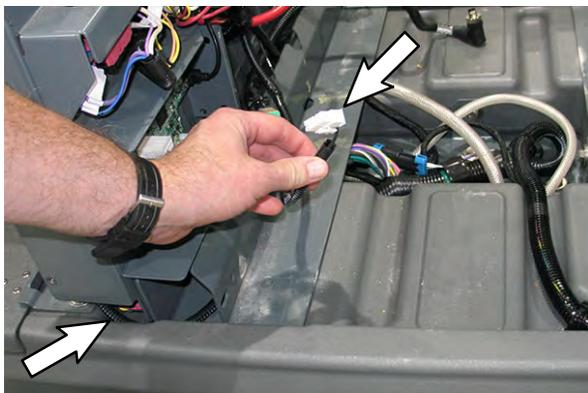

FIG. 12
4. Route the leg electric harness (20) into the battery compartment. Situate the leg electric harness so it is not later crimped/damaged when the shroud is later installed onto the machine. (Fig. 12)